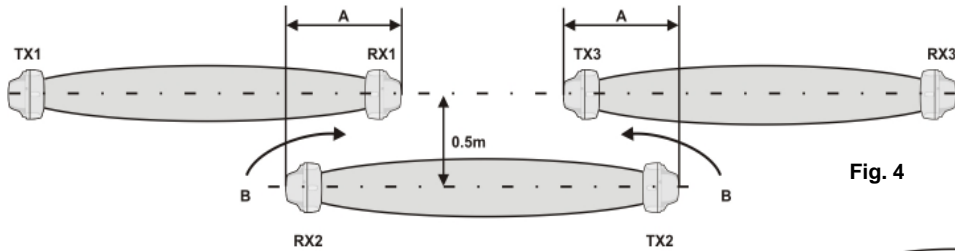

Fig. 4
If one side of the perimeter is longer than the maximum range of the barrier, it is necessary to place several barriers side by side (fig. 4).
Doing this, the distance between the barriers must not exceed 50cm in order to prevent a possible intruder from passing through the corridors (B) without being captured (fig. 4).